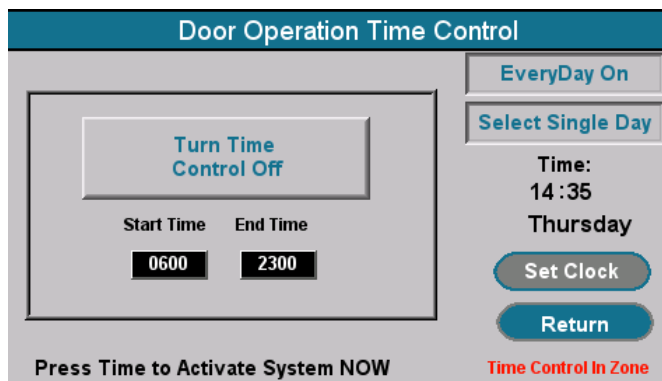

Fig. 8B
2. The screen in fig. 8B will appear